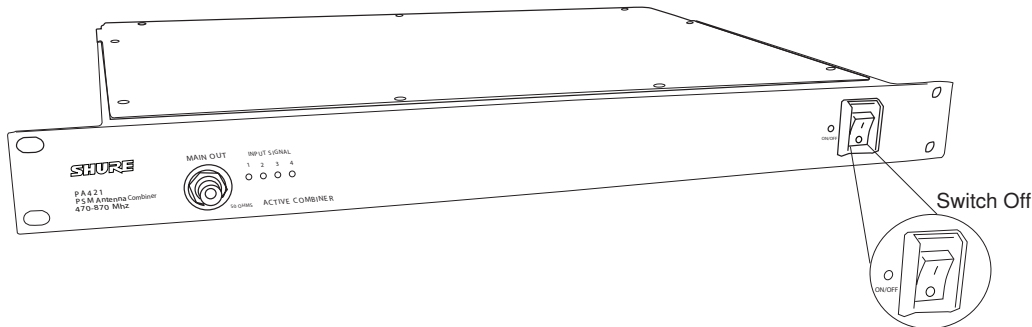

Figure 1
(See Figure 1)
- Attach an antenna to the MAIN Out of PA421SWB. For wideband applications, use PA805SWB directional antenna (Figure 1).